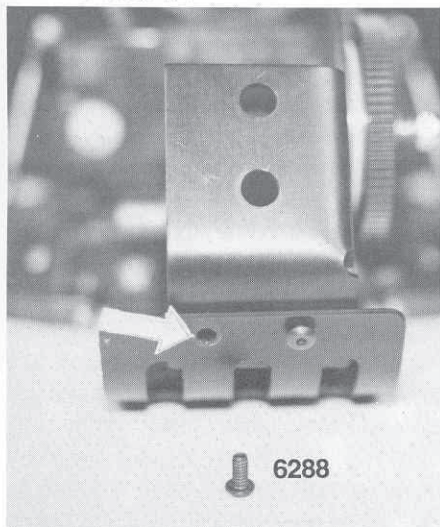

Fig. 81
□ **Fig. 81** Also in bag F you will find two #6288 4-40 x 1/4" button head socket screws. If you look at the back of the chassis you will see that there are two holes. We will use the #6288 screws to secure the chassis to the motor plate. Make sure the motor plate fits inside the chassis as shown then thread the two #6288 screws into the motor plate. This is the reason we did not tighten up the transmission mounting screws. After both screws have been started go ahead and tighten them both. Now you can go back and tighten the four #6292 screws we used to mount the transmission to the chassis.